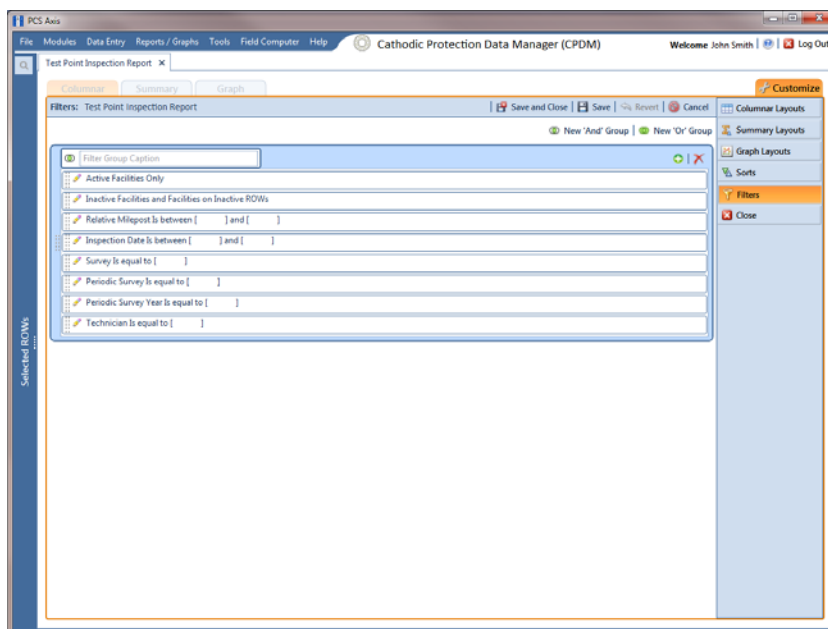

Figure 15-43. Filters
- 3 Click the **Customize** tab  then the **Filters** button  to open the *Filters* page (Figure 15-43).